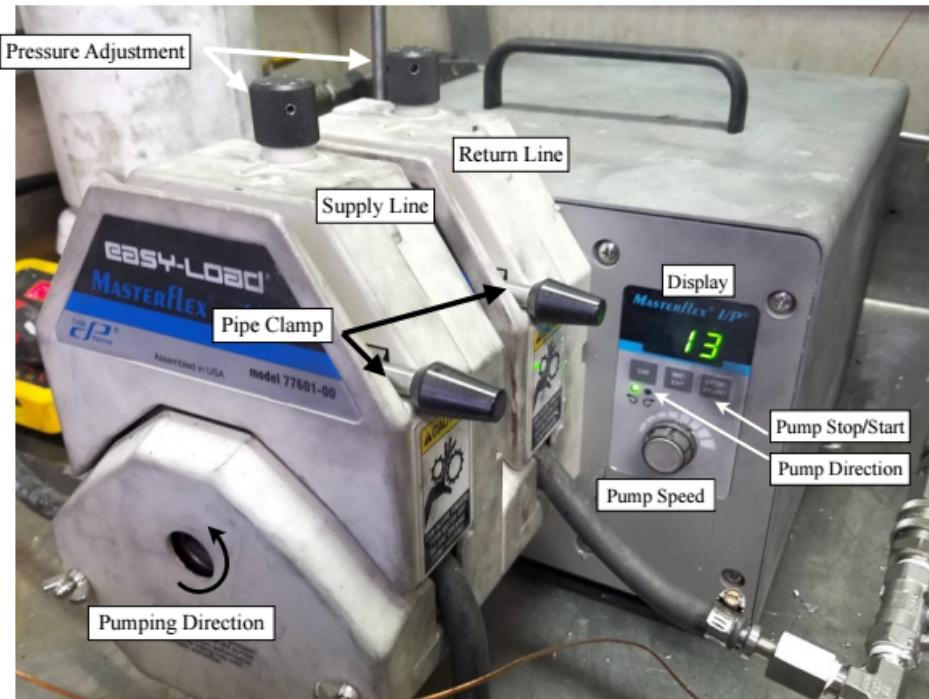
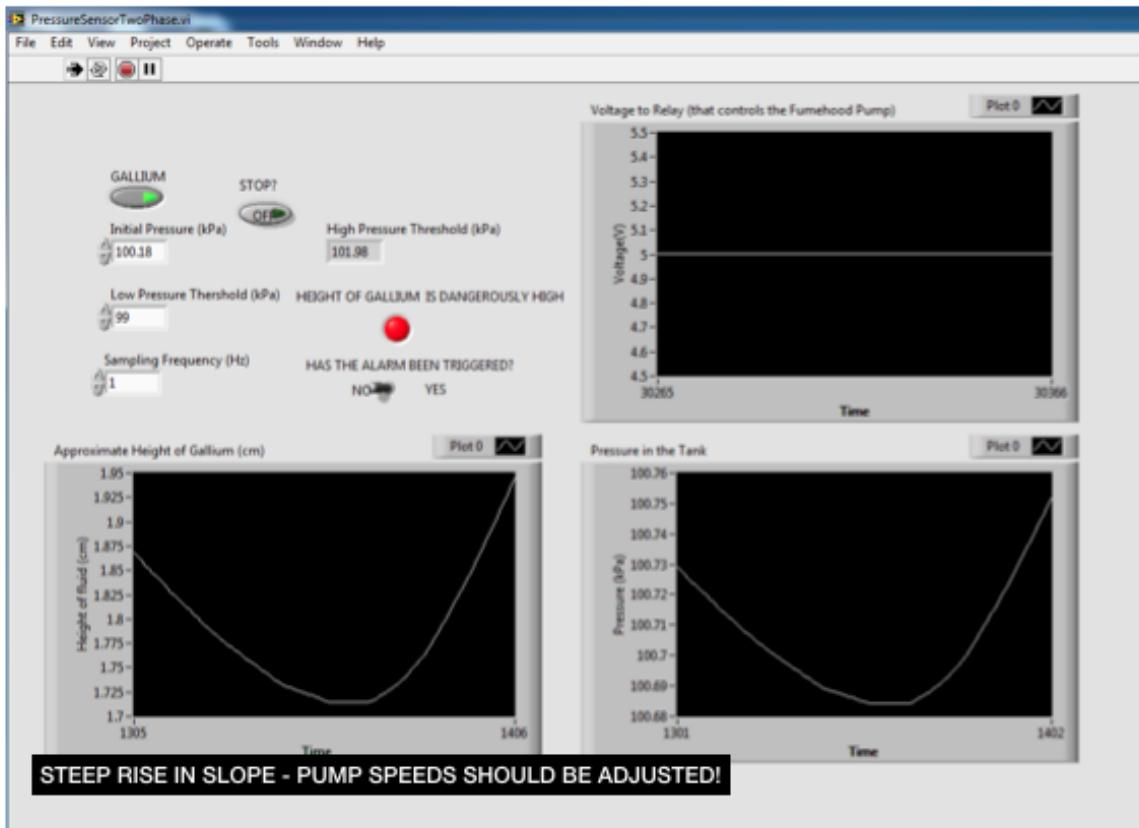

Figure 4: The Masterflex I/P Easyload Peristaltic Pump used to transfer gallium between separate tanks. Image and caption contributed by Alex Grannan
Figure 9: A sharp increase or decrease in the height indicates that the flow rates of the supply/return line need to be adjusted.
- A Masterflex I/P Easyload Peristaltic Pump (model #:77601-00) that pumps gallium through the system when either (1) cleaning the gallium or (2) transferring the gallium from the fume hood to RoMag's convection tank. The speed of the motor is adjusted with the knob on the right side of the pump. For a photograph of the pump, see Fig. 4.
6. Set the pump speed to 13 (see Fig. 4), and push the START button on the pump. Gallium will begin flowing into the cleaning tank. Check the Labview pressure program, and you should see the height level of the gallium slowly start to rise.
11. Monitor the level of the gallium in the cleaning tank closely, both with the pressure-based alarm program and by eye. It is difficult to keep the level constant, but one can adjust the supply or return flow rates by turning the pressure adjustment knobs (see Fig. 4) the default values being 3. If level of gallium is rising steeply (AKA a sharp positive slope in the height graph), either decrease the supply flow rate or increase the return flow rate (see Fig. 9). If the level of gallium is falling sharply, vice versa.